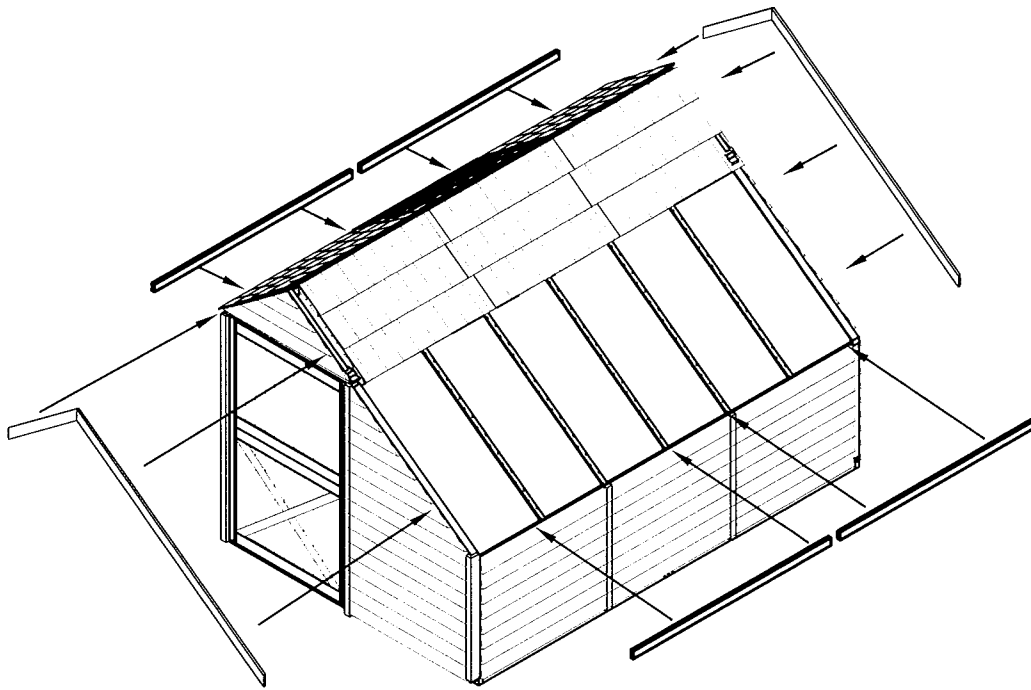
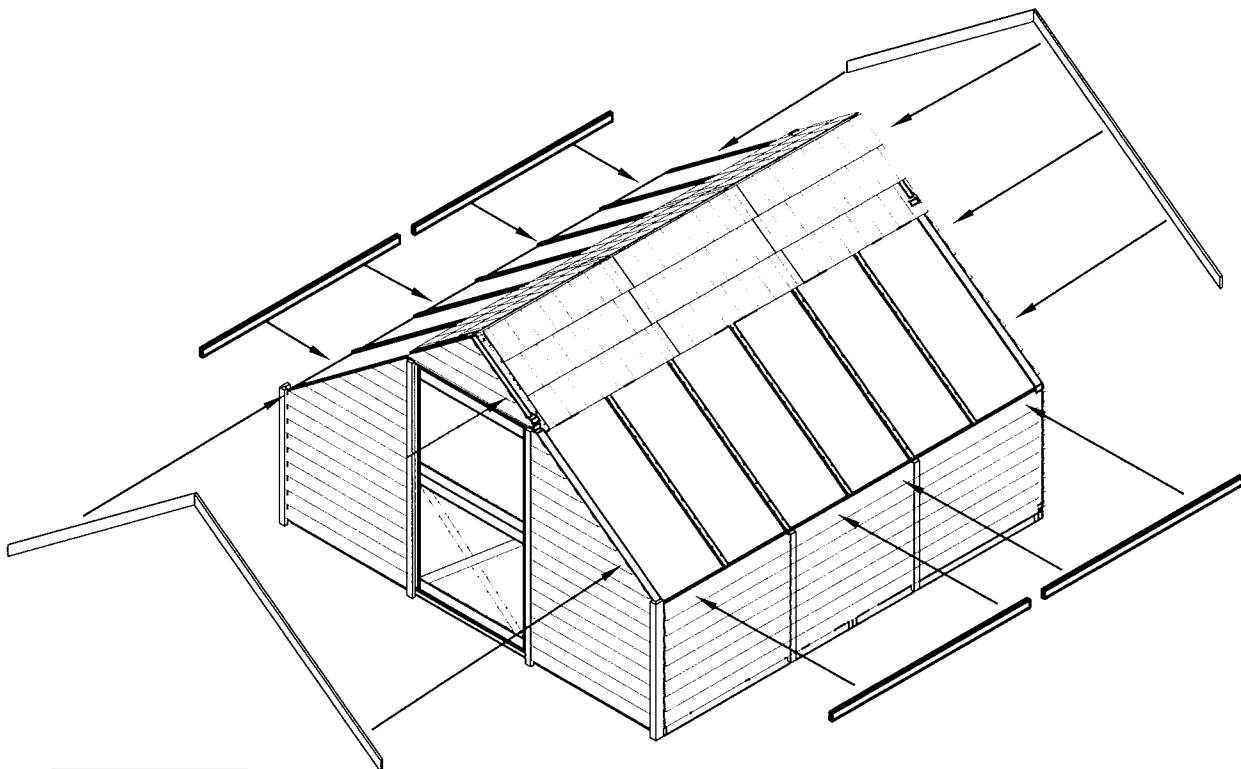

FIGURE L2
FIGURE L3
- Install all the fascia boards using finishing nails at every 12" centers. Figure L2 illustrates the 8x8 and 8x12 models. Figure L3 illustrates the 12x12 model.